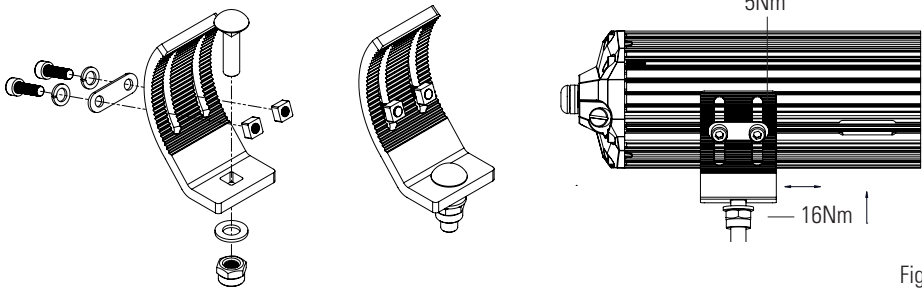

Figure 4
1. Attach rear slide mounts when pre-assembled to the Light Bar as indicated below (Figure 4)